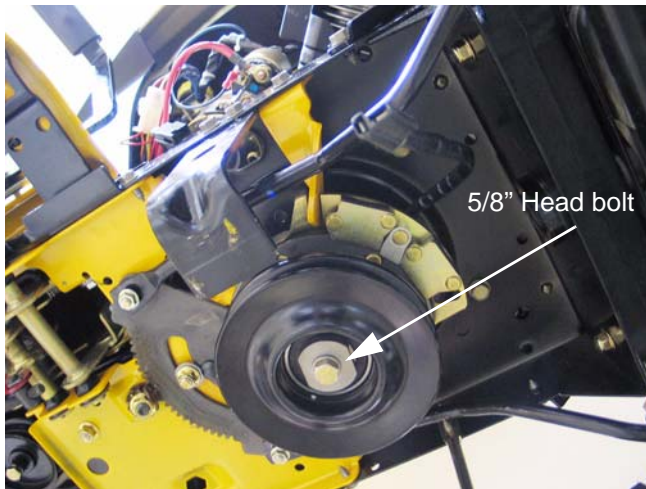

Figure 23.4
- 23.4. Remove the electric PTO clutch from the engine crankshaft using a 5/8" wrench. See Figure 23.4.